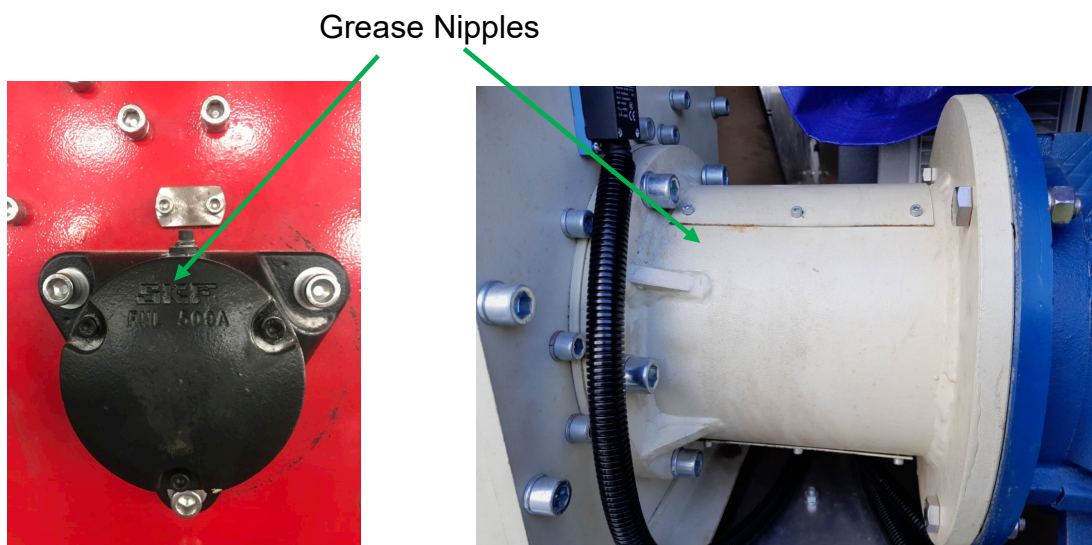

Fig 3
1. The Main Bearings are pre-greased at the factory but **MUST** be greased prior to operation. Fig 3.